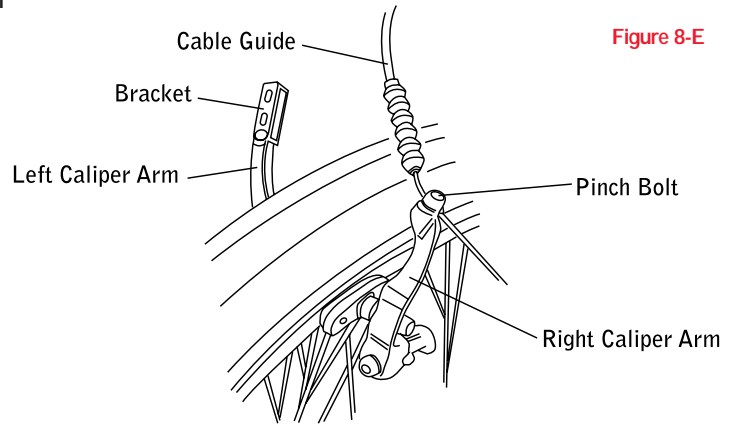

Figure 8-E
- A. With the steering fork facing forward, insert the wheel between the fork blades so that the wheel axle seats firmly at the top of the slots. Install the axle retention washer, then hand-tighten the axle nuts. Assemble both sides in this method. (See Figure 8-D)